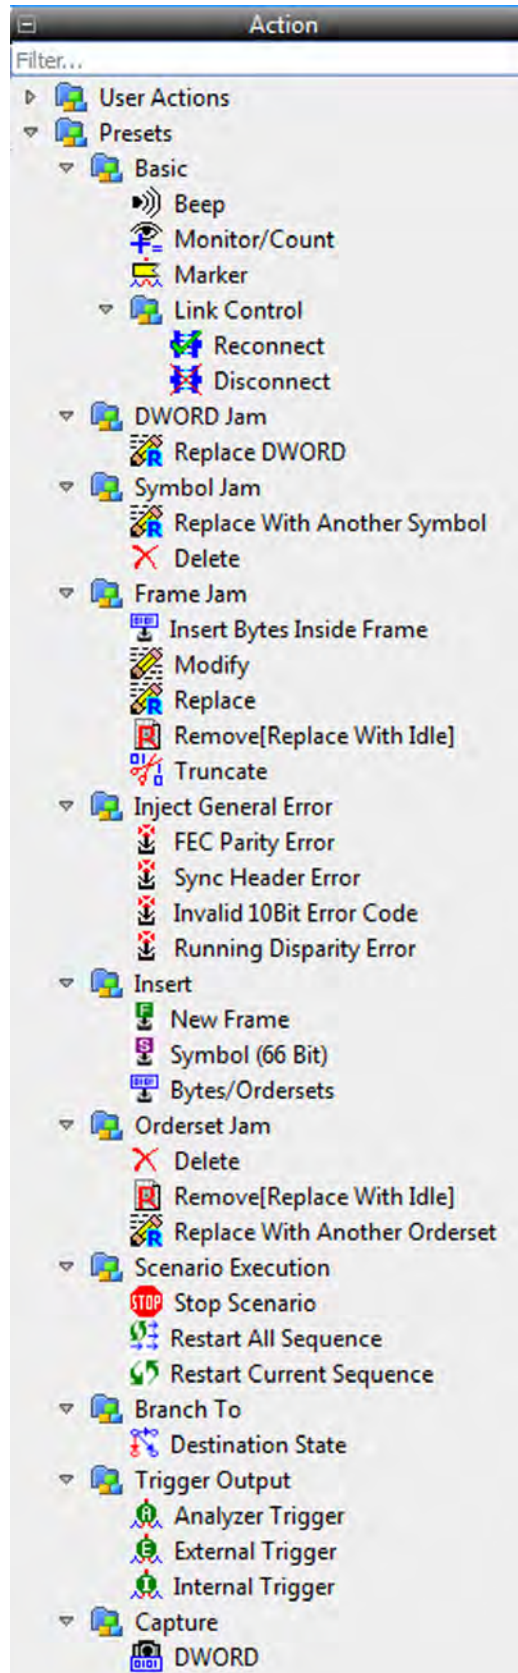

Figure 6.24: FC Action Properties Dialog
6.4.4.3 Actions in Simple Mode – Fibre Channel (FC)
The following figure displays the options for a set of Actions in the Simple Mode (FC). See Figure 6.24.